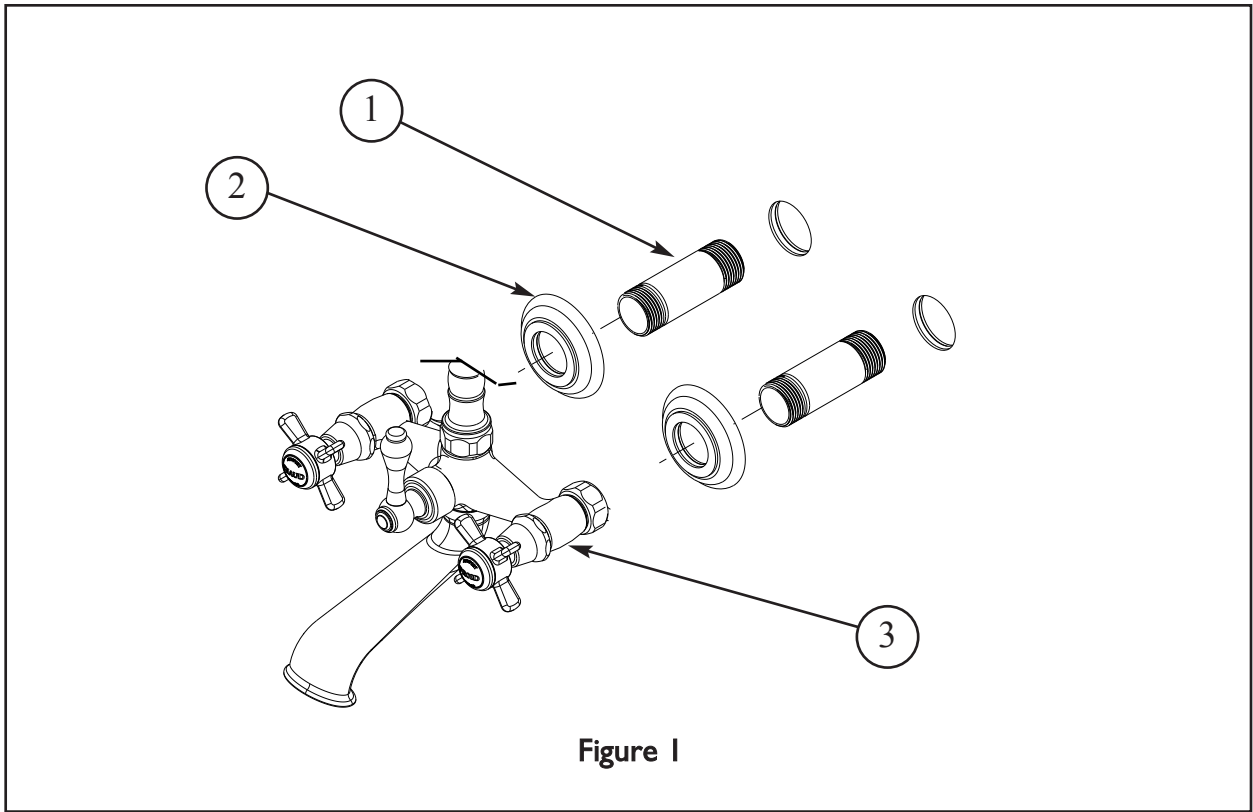

Figure 1
1. Apply thread sealant to the threads of the NIPPLE (1) and thread into fitting behind finished wall. Place ESCUTCHEON (2) over NIPPLE (1). Attach faucet BODY (3) to the other end of NIPPLE (1) and flush against ESCUTCHEON (2). See Figure 1.